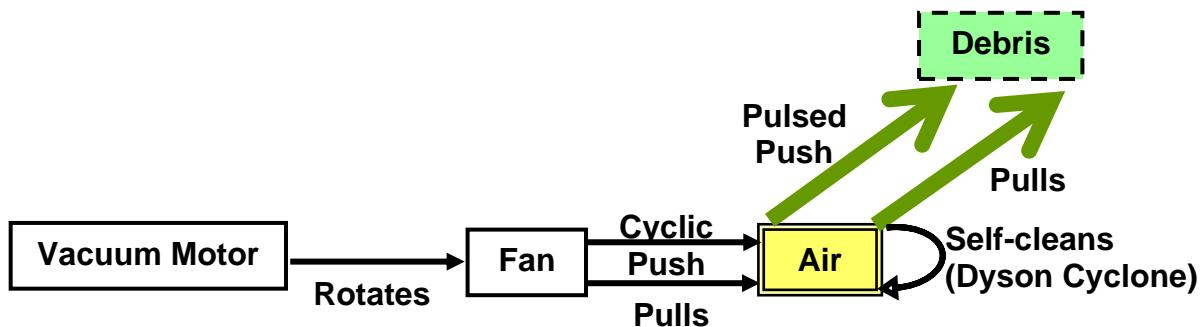

Figure 11. ‘Pruned’ and reconnected vacuum cleaner function diagram
*One final comment regarding the air filter problem above. The Invention Matrix, to be discussed in technique 5, could have been used as well to provide the same answer. If debris removal is improved using a filter, attribute 26: Quantity of Substance then attributes 22: Energy, reduce air flow deteriorates. At the column/row intersection resides Inventive Principle, 22, Self-service, i.e. self-cleaning air. Please refer to Figure 11, for the pruned and reconnected function diagram of the vacuum cleaner. (Note: If we were really stuck for a solution, use of the Physical Effects software² database, discussed in technique 7, might provide answers. By entering search words like filter, the data base would suggest numerous alternatives including the use of centrifugal force.)